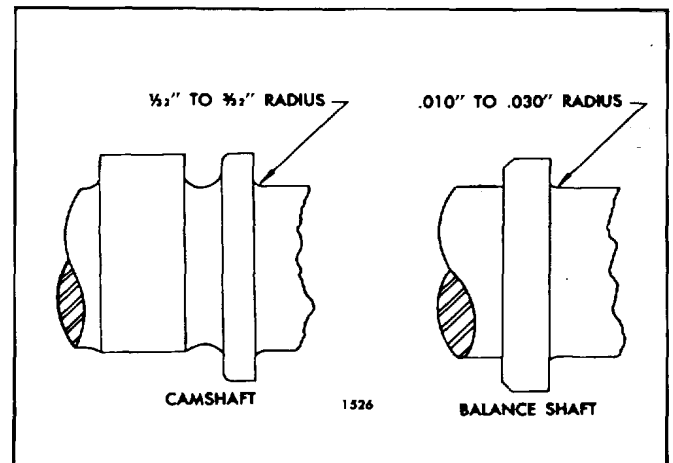

Fig. 7 - Camshaft and Balance Shaft Journal Fillets
2. Leave a .010" to .030" radius between the bearing surface of the thrust collar shoulder and the bearing surface of the balance shaft (Fig. 7).